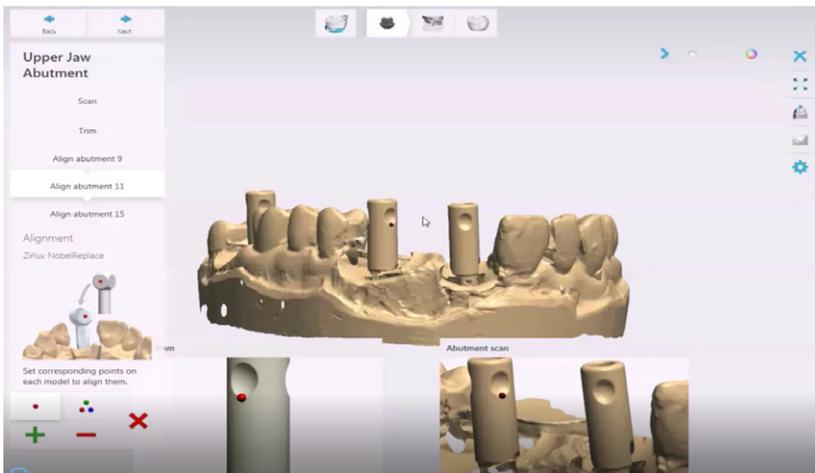

Fig. 6
2. Align scan flags using either a one or three-dot orientation. When aligning digital surfaces look for the most complex geometry – cusp tips and rounded or irregular surfaces have a larger concentration of small triangles. Scanning technology uses triangulating geometry to create 3D rendering. Complex geometric surfaces make it easier for the software to recognize with precision and align properly. (Fig. 6)